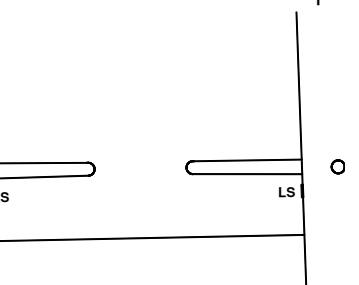

Figure 5
2. For standard U.S. 8 1/2" X 11" paper, move both paper guides in so that their inside edges align with the straight marks on the feed table denoted LS (see figure 5 for mark location). For A4 paper, align the *outside* edges of the paper guides with the straight marks denoted A4. Tighten both thumbscrews (Note: Do not over tighten thumbscrews).